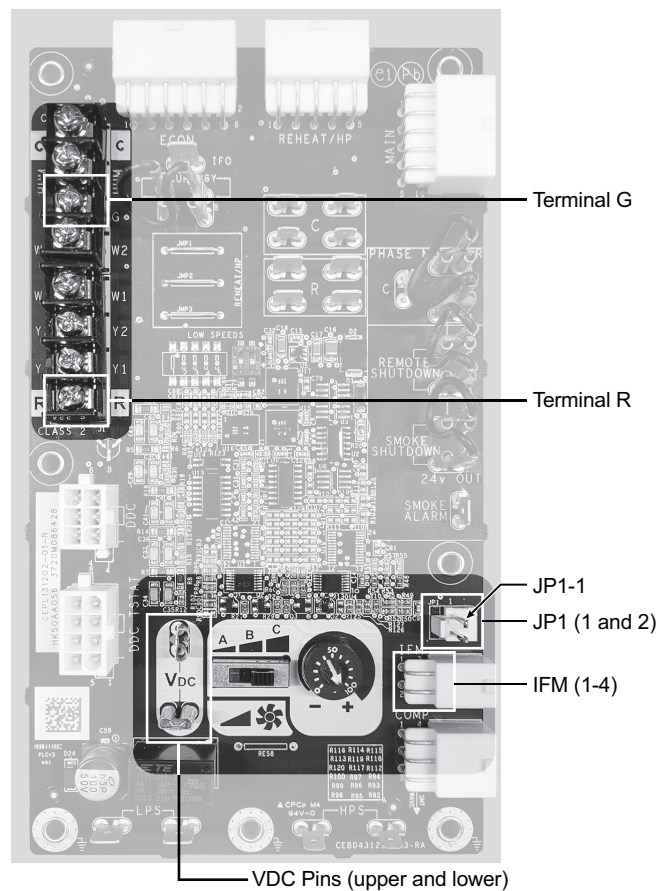

Fig. 12 — Testing Locations on Unit Control Board (UCB)
9. Using a jumper wire from unit control terminals R to G, engage motor operation. See Fig. 12.
10. Verify control signal from user speed selection switch by placing voltmeter taps in provided terminals marked VDC. Signal should be between 3.8 vdc and 10.3 vdc. See Fig. 12.